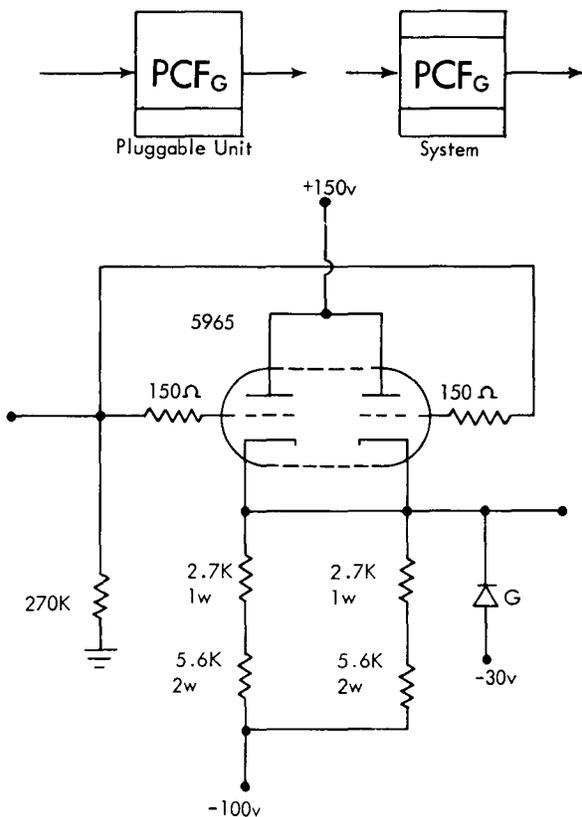

FIGURE B68. POWER CATHODE FOLLOWER (PCFG)
The oscillator output must be powered before it is fed into the sync generator. PCFG (Figure B68) is a special cathode follower used for this purpose. It also serves as a level setter because: (1) its input contains part of a divider attached to the output of the master oscillator unit, and (2) its cathode circuit contains a clamp diode. The circuit is two parallel ordinary cathode followers with no bias resistors. A slight voltage rise through the circuit can be expected.